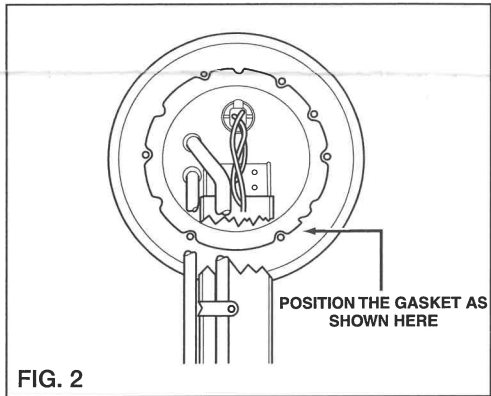

FIG. 2
- P) Remove the old tank seal and install the new tank seal onto the pump bracket flange. (See Fig. 2.)